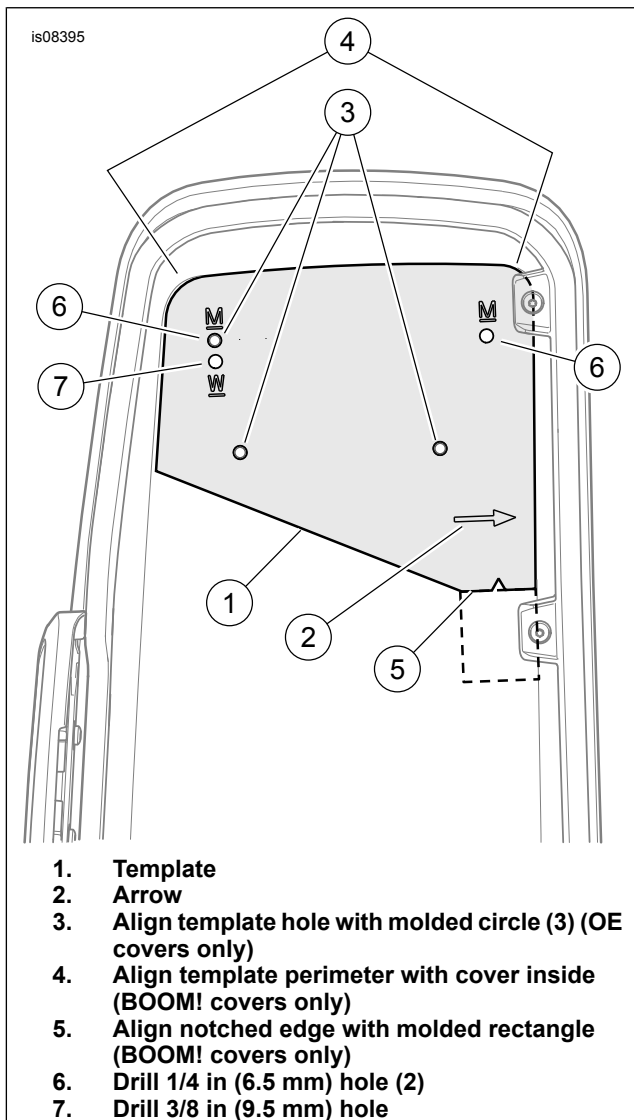

Figure 1. Drill Holes in Saddlebag Cover (Left Shown)
The template is used for both saddlebag covers. See Figure 1 for placement in left cover. Flip the template over for use in right cover.
4. **Models with original equipment (OE) saddlebag covers: Models with BOOM! speaker saddlebag covers:**
- a. See Figure 1. Orient the template (1) on the inside of the saddlebag cover, with the arrow (2) pointing toward the latch side of the cover as shown.
- b. Position the template by aligning the three template holes (3) with the corresponding circles molded into the cover.
- b. Position the template by aligning the perimeter (4) with the interior shape of the cover. Align the notched edge (5) with the rearmost edge of the rectangular outline molded into the cover.
8. From **outside**, enlarge the two spoiler base mounting screw holes (6) to 6.5 mm (1/4 in) diameter.
9. Enlarge the wiring hole (7) to 9.5 mm (3/8 in) diameter.